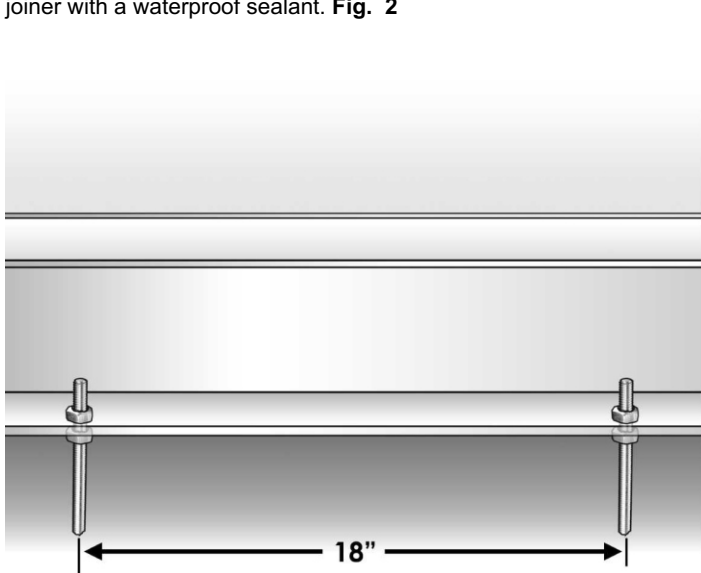

Fig.1
1) If preforming a trough, the trough must be a minimum of 10-12 inches wide and the depth will be determined by the thickness of the decking material or any other material used to finish the decking. Some additional depth may be added for the use of the pre-drilled holes in the base for the insertion of threaded rods and lock nuts for accurate leveling of the drain system. (not supplied by Daldorado, LLC.) **Fig. 1**